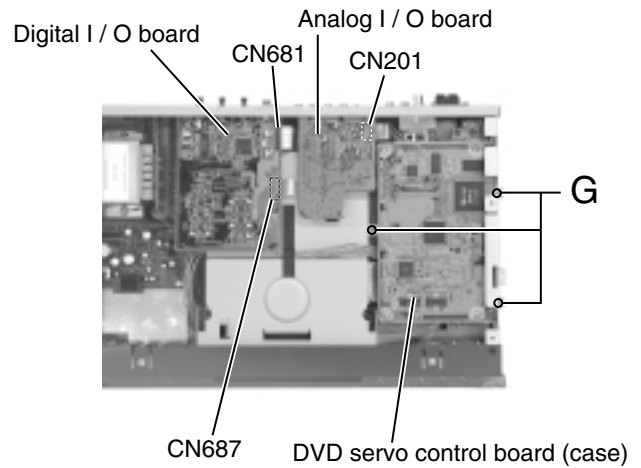

Fig.18
■ Removing the analog I / O board / the digital I / O board (See Fig.18 and 19)